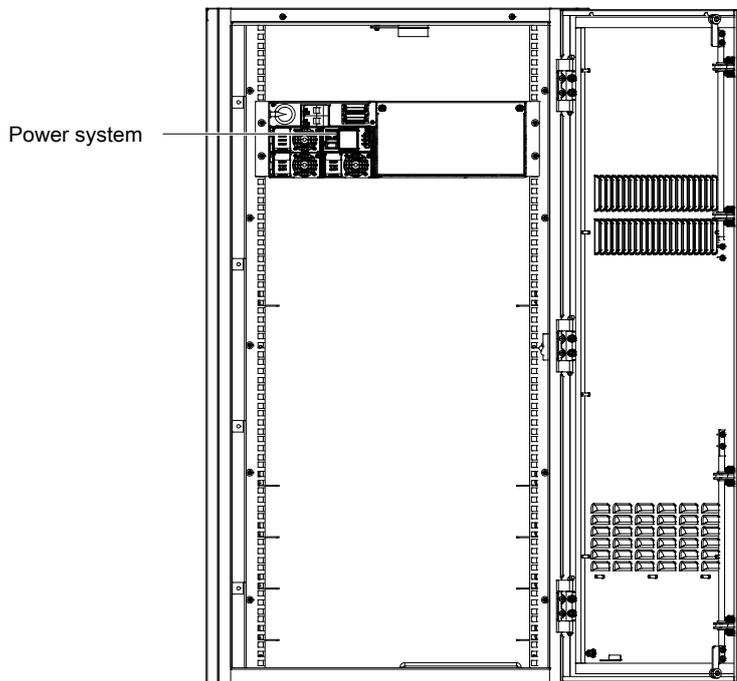

Figure 2-2 Installed in the cabinet system
- Insert the power system to the matching cabinet, as shown in Figure 2-2.